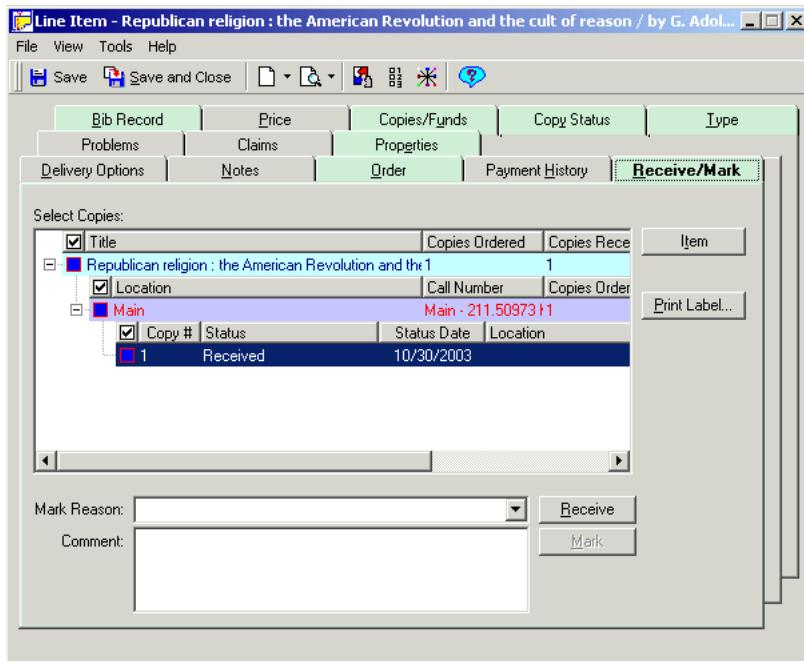

Figure 10-6. Line Item dialog box - Receive/Mark tab
4. After you have selected the copy or copies that you want to receive (Figure 10-6), click the **Receive** button or press **Alt + R** on your keyboard.